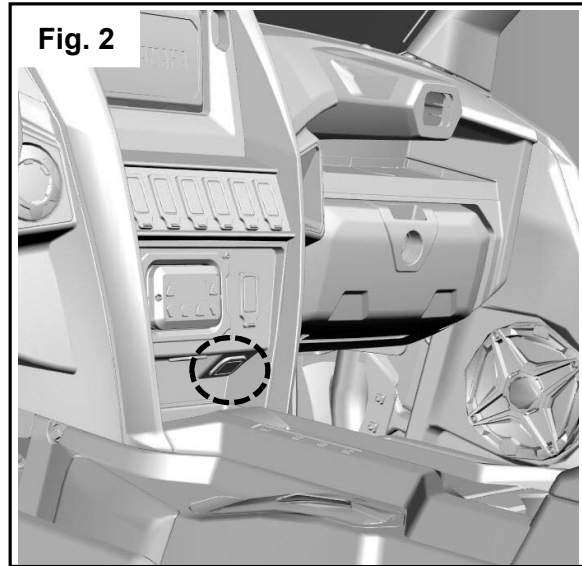

Fig. 2
2. Remove the center dash bezel. (Fig. 2)
3. Remove the covers in the driver and passenger foot wells and the center dash. (Fig. 2 and 3)
4. Insert the wire harness end of the ① Auxiliary Light Assembly and snap the light in each of the three places.